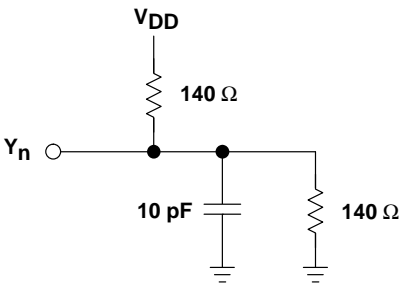

Figure 1. Test Load Circuit
**switching characteristics over recommended ranges of supply voltage and operating free-air temperature, CL = 10 pF, VDD = 3.3 V ± 0.3 V (see Note 6 and Figures 1 and 2)**